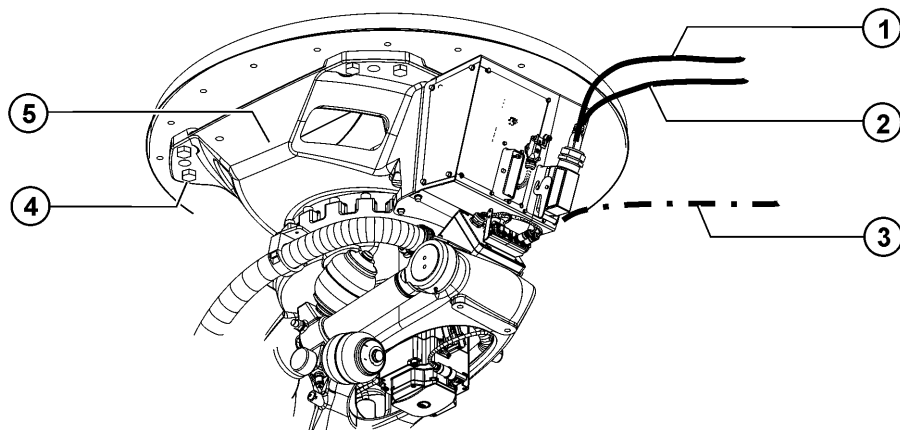

Fig. 12-4: Removing the robot
4. Secure the robot by activating the E-STOP device and then shut down the robot (>>> Fig. 12-4).